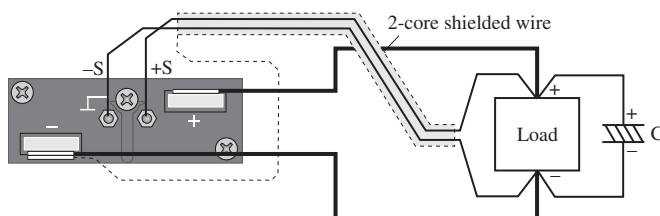

Fig.3-6 Remote sensing connection
3. As shown in Fig.3-6, connect the sensing wires between the sensing terminals and the load cable by using the screws provided.